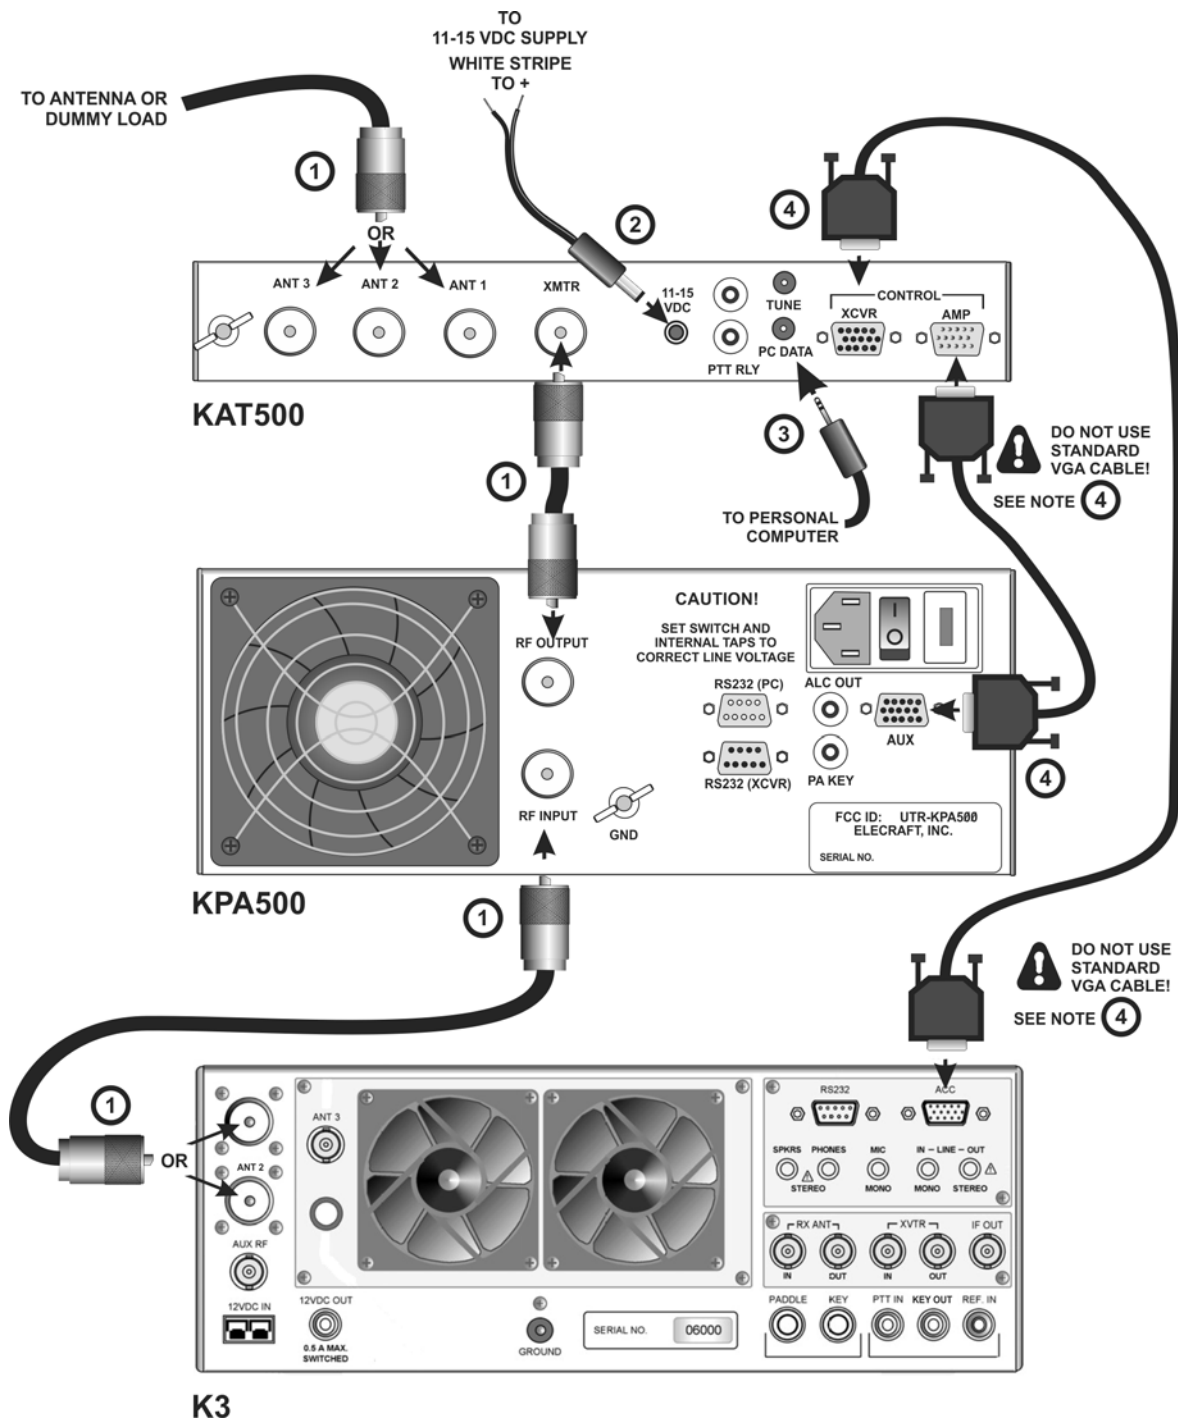
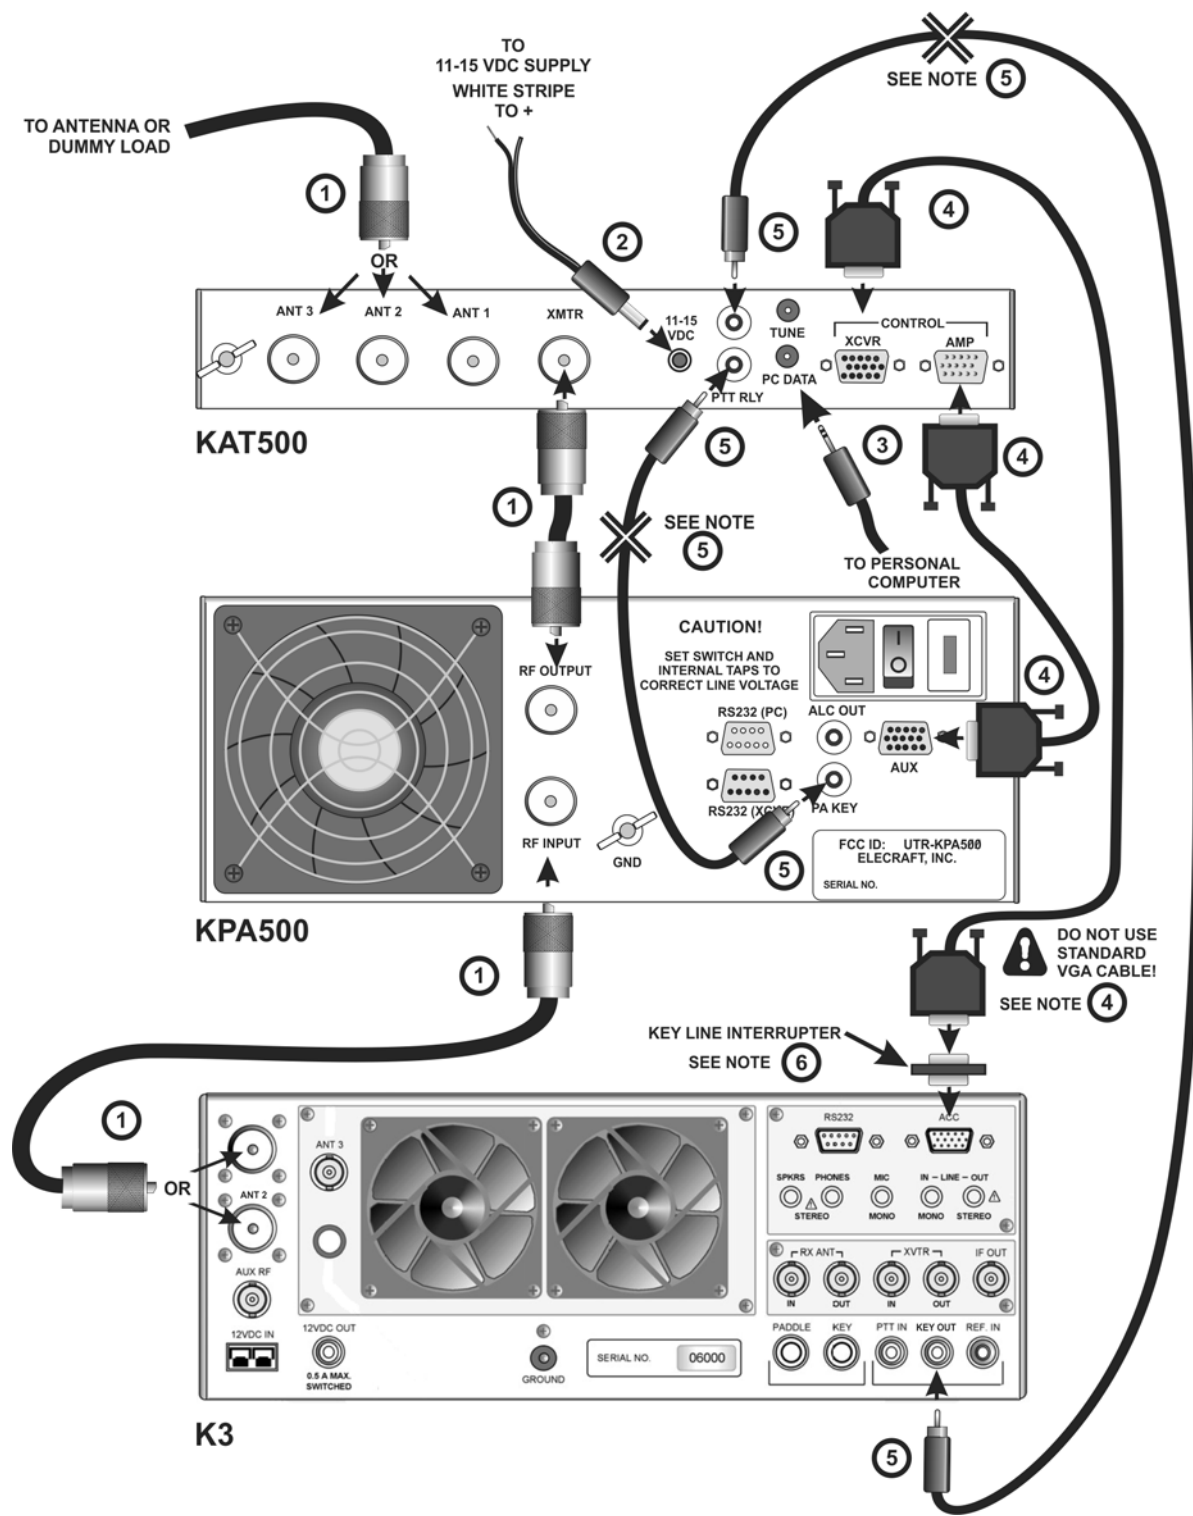

Figure 1. Cabling Diagram: Elecraft K3, KPA500 and KAT500 Using E850463 Aux Interface Cables.
Figure 2. Cabling Diagram: Elecraft K3, KPA500 and KAT500 Using E850463 Aux Interface Cables with Separate Key Line.
The basic E850463 Aux cabling setup is shown in Figure 1. If your station setup requires that other equipment (e.g. SteppIR controller) have access to the key line to inhibit the amplifier, use the cabling described in Figure 2.
The KAT500 works well with any H.F. transceiver covering 1.8 through 54 MHz and amplifier delivering up to 1,000 watts output (see *Specifications*, page 2). If you have an Elecraft K3 transceiver and KPA500 amplifier you can connect them to the KAT500 as shown here. However, for best integration of the K3 equipment, we recommend that you use the E850463 Aux interface cable as shown on page 3 and Figure 1.
- **IF YOU ARE USING THE KAT500 WITH A K3 CONNECTED USING THE E850463 AUX CABLE (Setup Figure 1 or Figure 2):** Apply power to the KAT500 *before* turning the K3 on. If you turn the K3 on before applying power to the KAT500 the K3 may not initialize correctly. If that happens, briefly remove power from the K3 and then turn it on again.
When using the KAT500 with an Elecraft K3 transceiver and KPA500 amplifier connected with the E850463 Aux interface cable (*Setup* Figure 1 or Figure 2), the KAT500 changes bands when you change bands at the K3. The mode selected (AUTO, MAN or BYP) applies to all bands. Only the ANT selection and the L/C settings are stored in memory and recalled for each band.